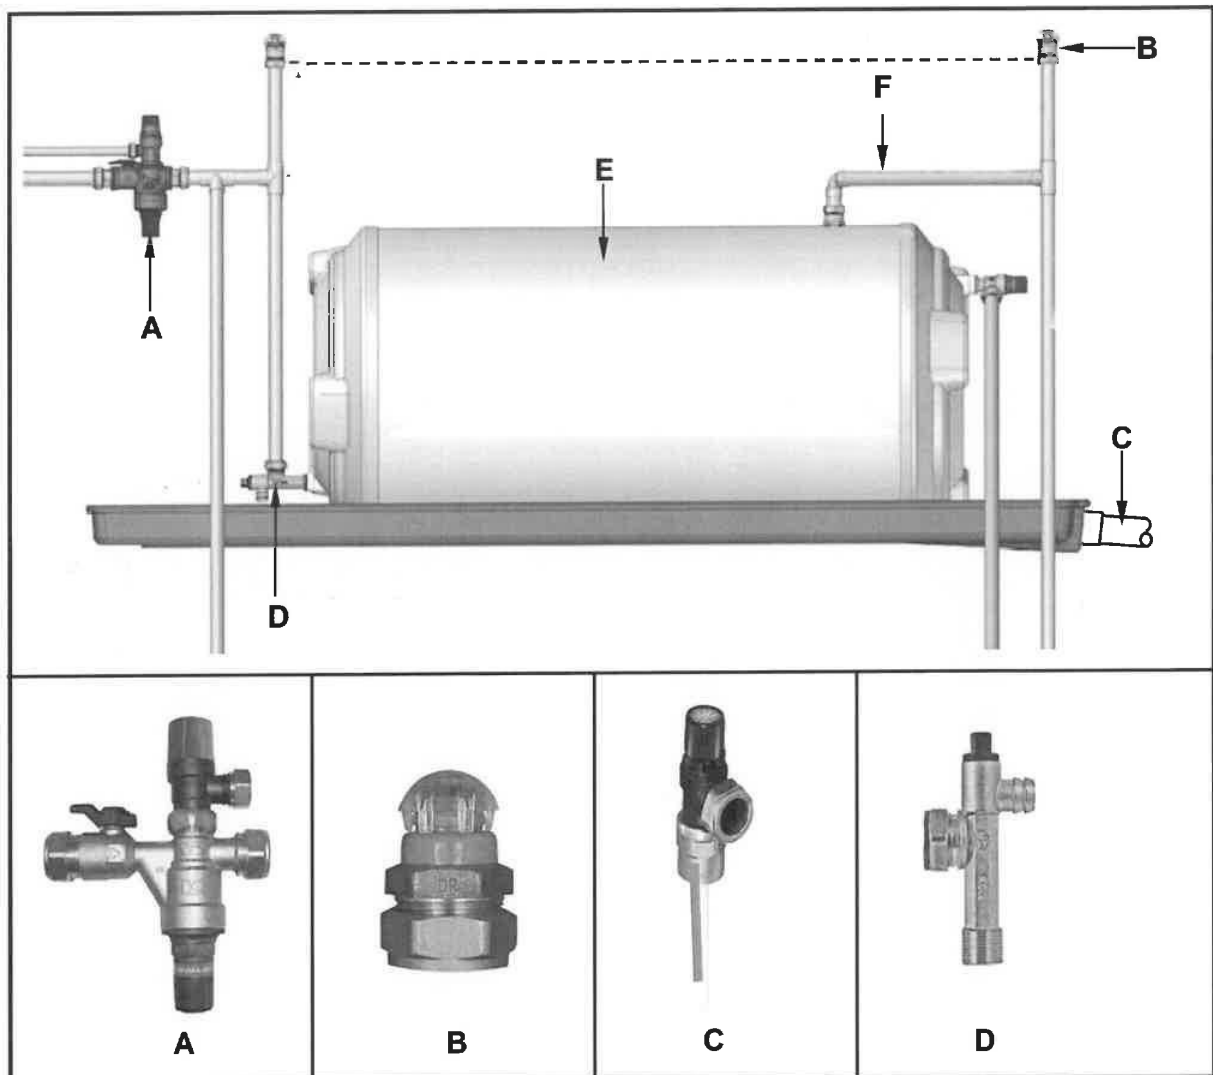

FIGURE 4.2
- 4.2 FIGURE 4.2 below shows an installation of a hot-water supply system with the corresponding components below the system.